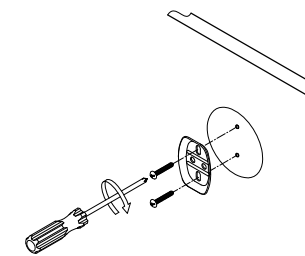

Fig. 5
- Step 4. Screw the mounting plate (with the lips facing out) to the wall with the mounting screws (fig 5).